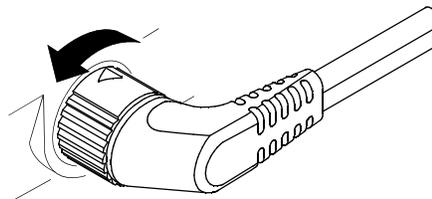

Figure 2-9 Disconnecting the Therapy Cable
- 1 Rotate the locking ring on the therapy cable in the direction of the arrow (counterclockwise) until it stops (refer to Figure 2-9).